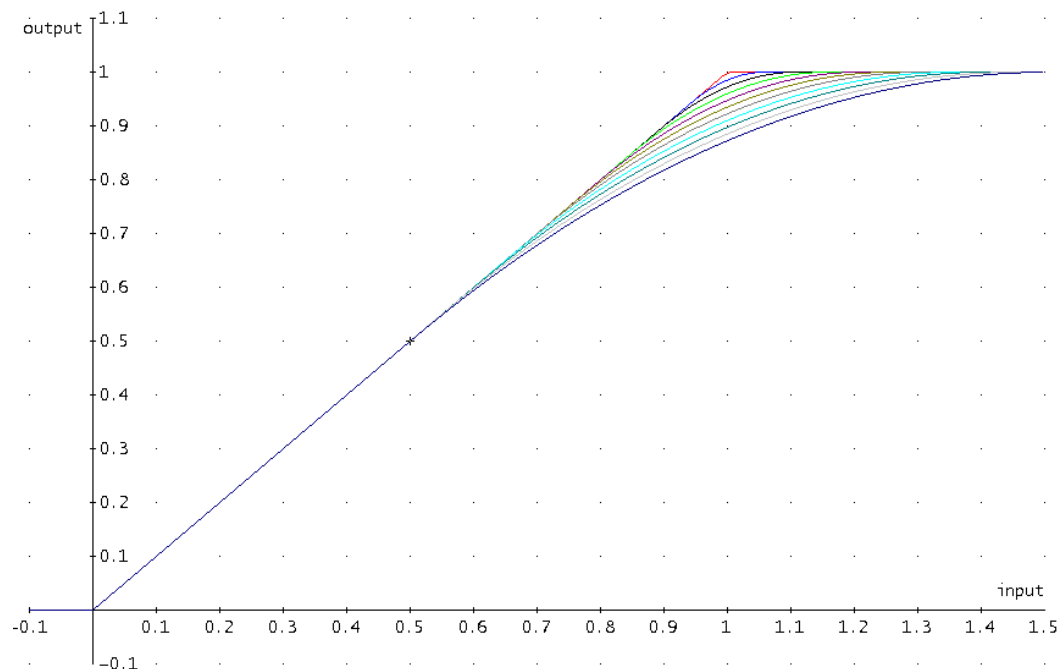

Figure 3-3: Bass Clipper Input/Output Transfer Curves as Bass Clip Shape Control is Varied from 0.0 (Hard) to 10.0 (Soft)
**Hard Clip Shape** (Hard Clip Shape) allows you to change the knee of the input/output gain curve of the bass clipper when BASS CLIP MODE is set to HARD. It allows you to control the shape of the “knee”—the transition between no clipping and flat-topping. “0” provides the hardest knee, where the transition between linear operation and flat-topping occurs abruptly as the clipper’s input level is changed. “10” is the softest knee, where the transition starts 6 dB below BASSCLIPTHRESH setting and occurs gradually. The factory default setting is “7.6.” See Figure 3-3.